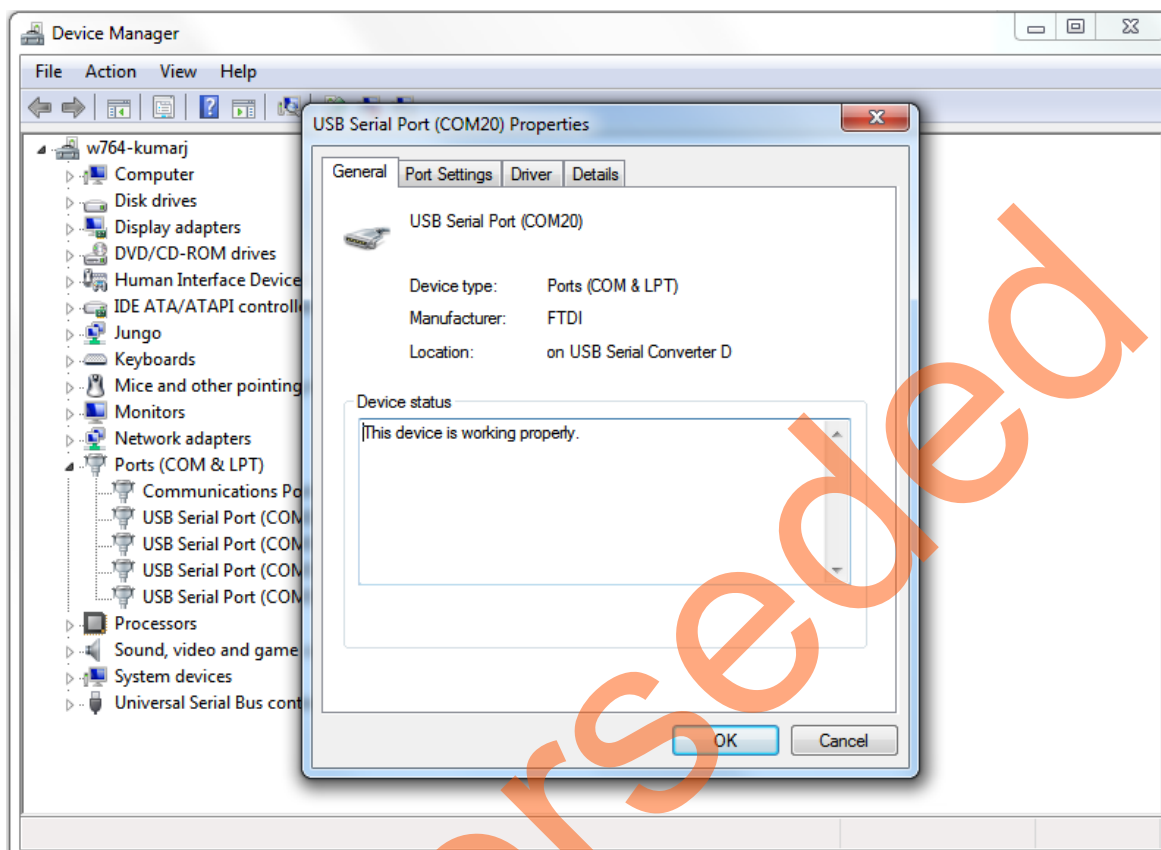

Figure 8 • USB to UART Bridge Drivers for SmartFusion2 Security Evaluation Kit
5. Ensure that the USB to UART bridge drivers are automatically detected. This can be verified in the **Device Manager** of the Host PC. **Figure 8** shows the USB Serial port.